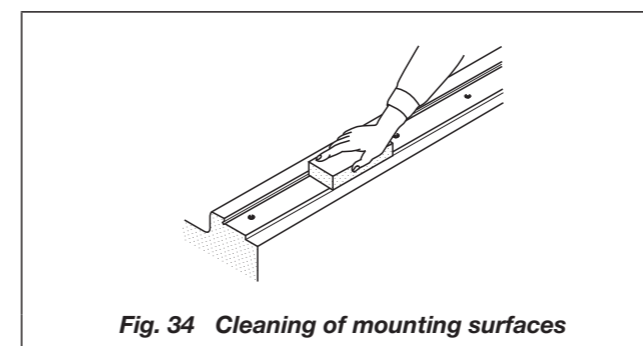

Fig. 34 Cleaning of mounting surfaces
- Remove burrs and blemishes from reference mounting surfaces and mounting surfaces of the machine using an oil-stone, etc., and then wipe the surfaces with clean cloth. (See Fig. 34.)